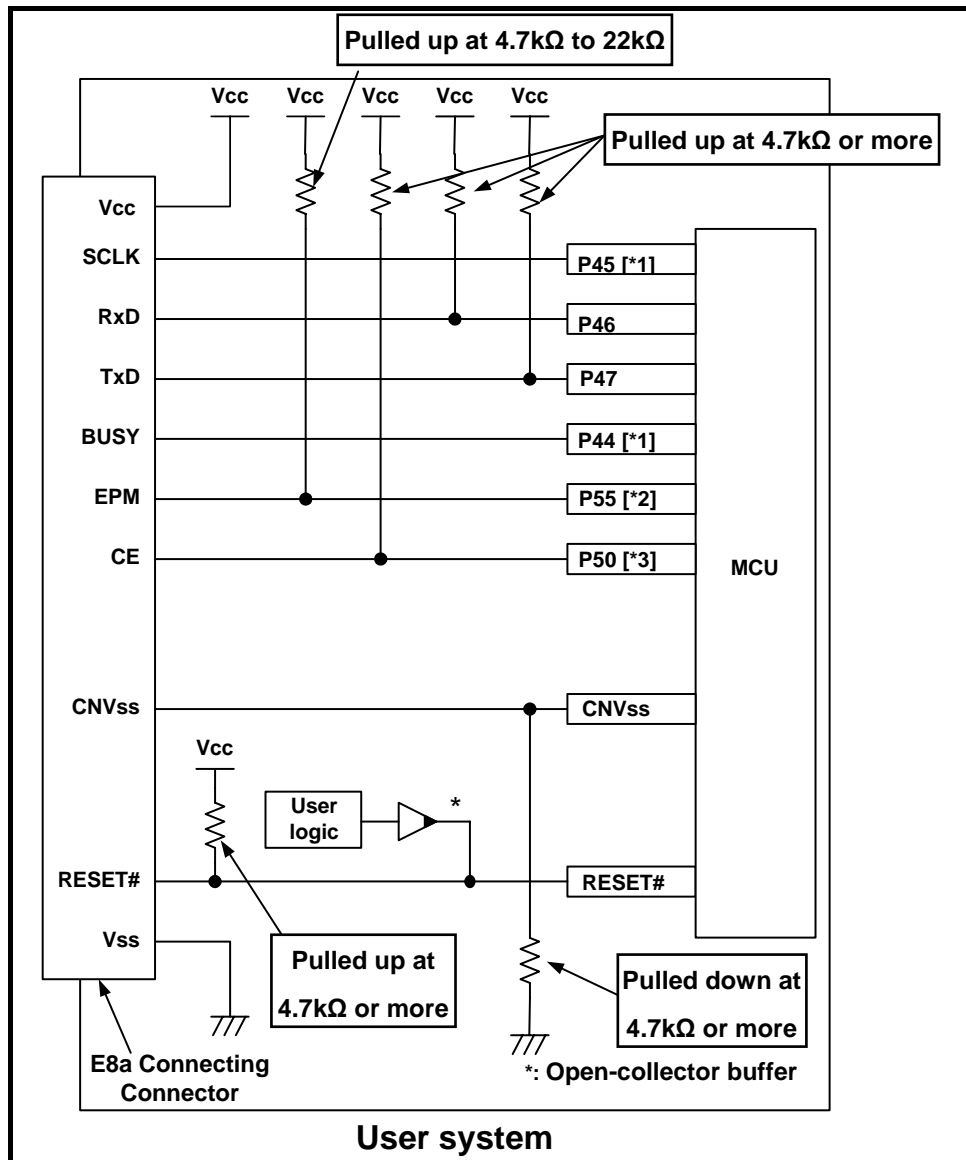

Figure 4.18 Example of an E8a Connection
- Memory expansion mode: See Figure 4.18.